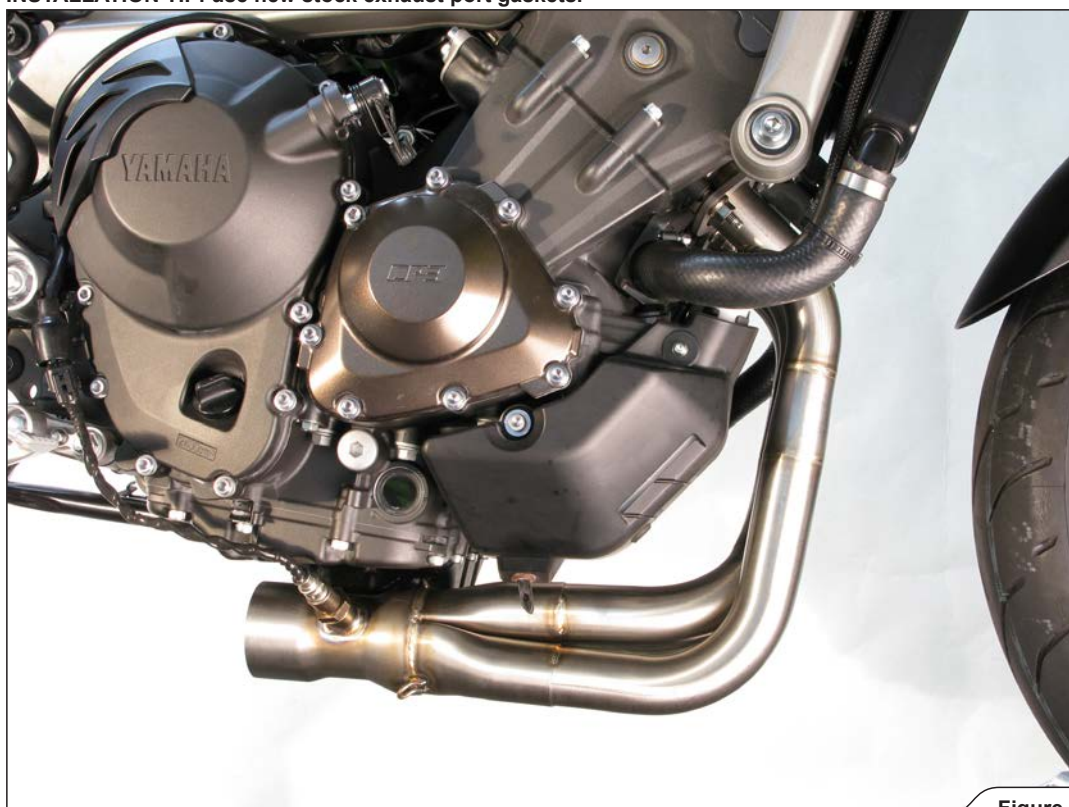

Figure 6
1. Install the Akrapovič headers and hand tighten the flanges onto the cylinder head (using stock nuts) and tighten the lambda sensor into the collector (Figure 6, 7, 8).